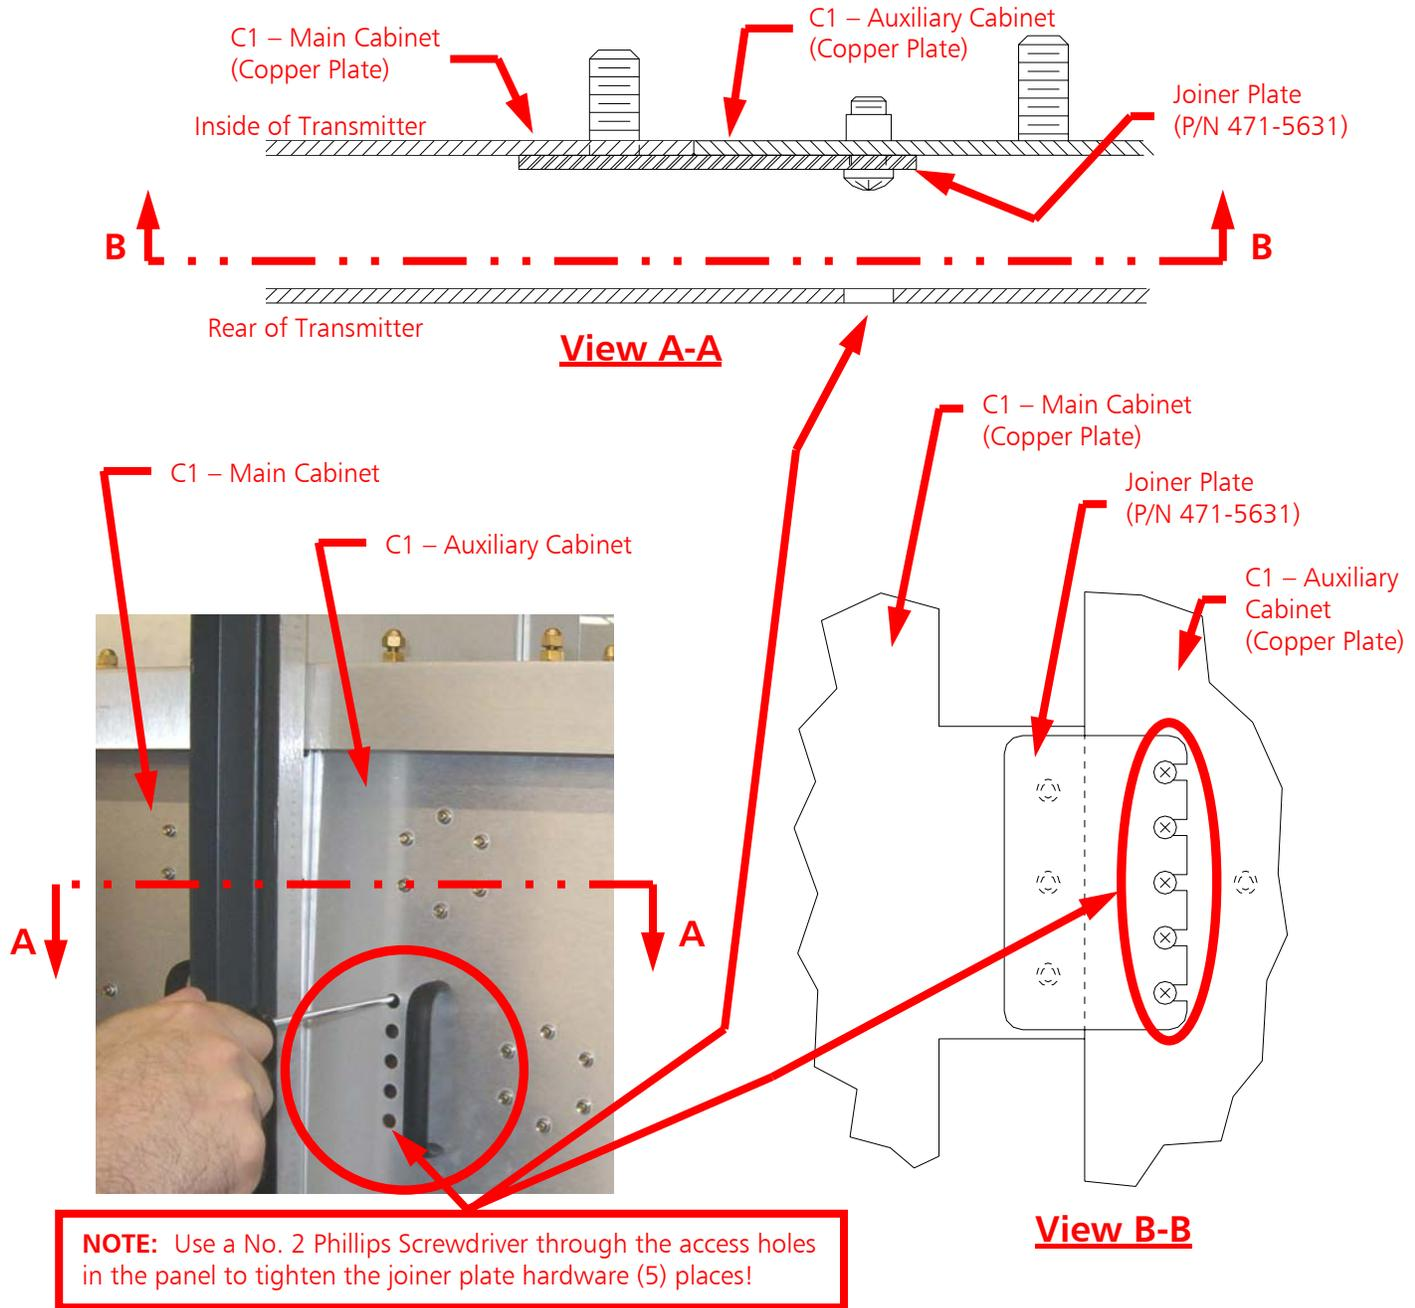

Figure 14 – Joiner Plate Installation
Step 1 – Install C1 Main “Inner Section” into the transmitter first as shown. Each section has (2) “L” shaped slots in the top. Slide over the studs and install the 5/16 hardware (2 places - flat, lock washer, and nut). Use a 1/2” wrench to tighten.
Step 4 – Use a No. 2 Phillips Screwdriver and tighten the “Joiner Plate” hardware. (See Figure 14 for additional detail regarding the joiner plate).